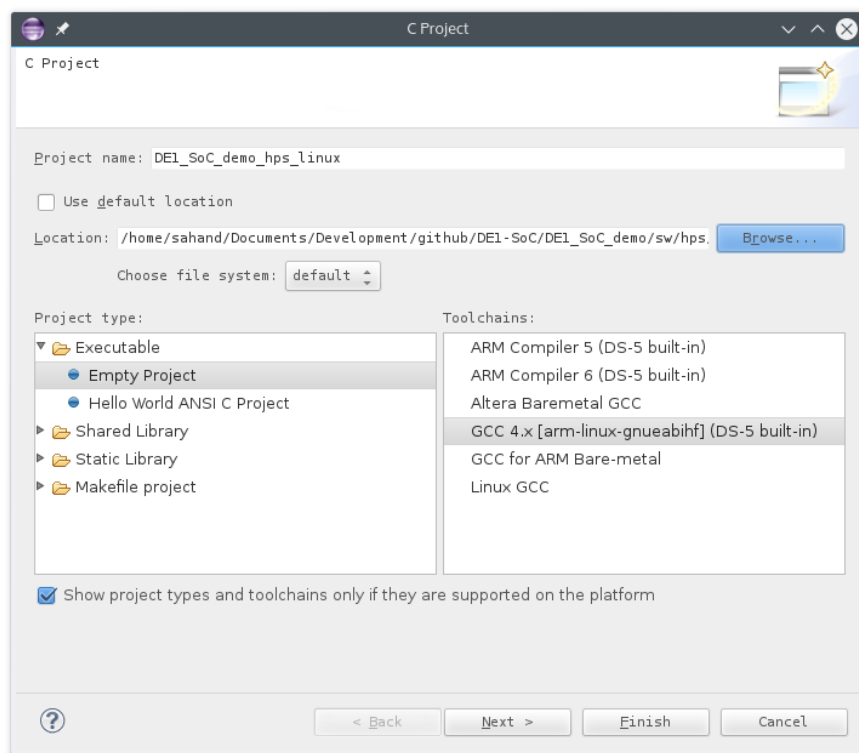

Figure 13-7. New C Project Dialog
- You should have something similar to Figure 13-7. Then, press the “Finish” button to create the project.